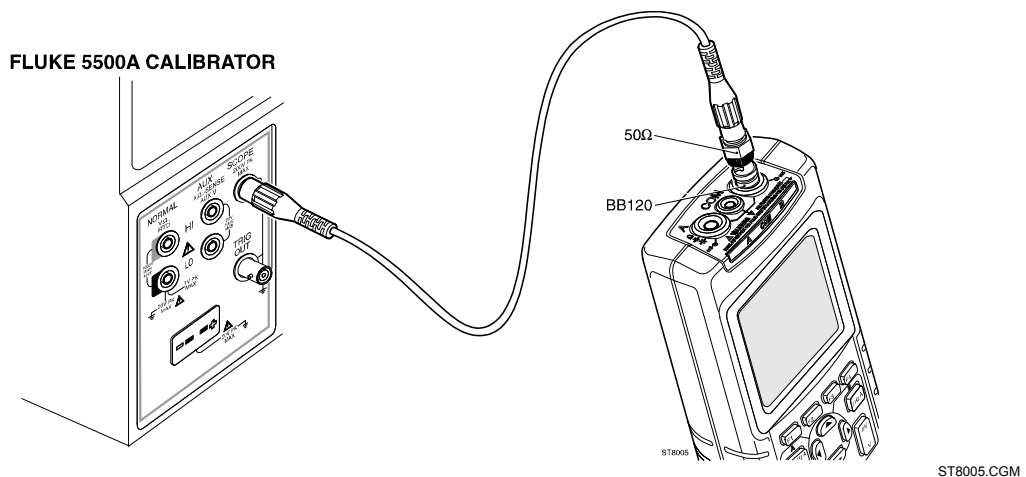

Figure 4-4. Test Tool Input B to 5500A Scope Output 50Ω
1. Connect the test tool to the 5500A as shown in Figure 4-4.
1. Connect the test tool to the 5500A as for the previous test (see Figure 4-4).